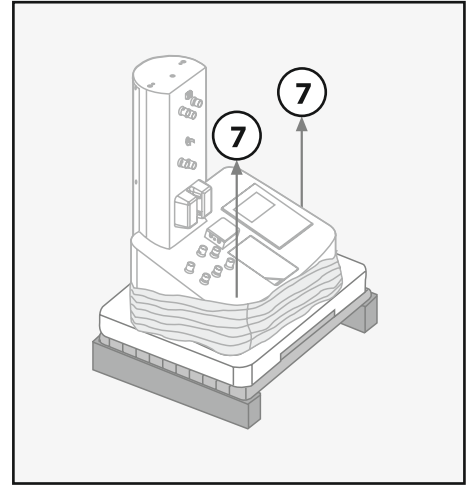

Figure 2.9: Lift the instrument.
7. Unwrap the large shipping bag (see Figure 2.9). Two people should carefully lift the CliniMACS Plus Instrument onto a flat stable surface which is capable of supporting 100 kg. The instrument should be lifted under each of the four corners at the base of the instrument.